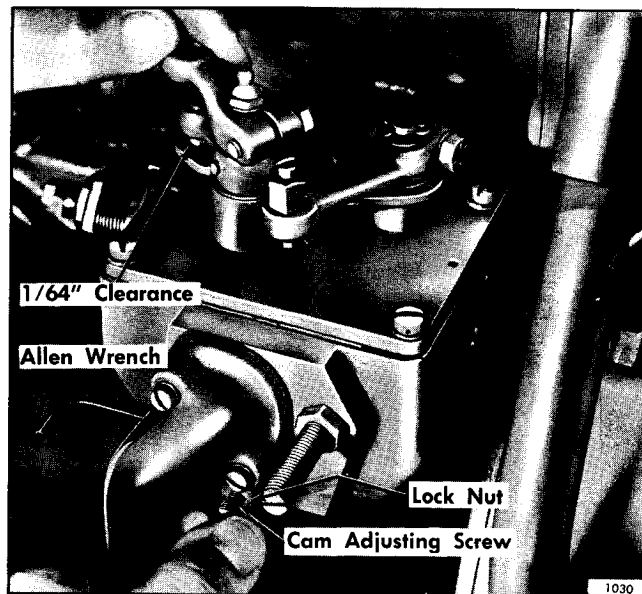

Fig. 7 - Modulating Cam Adjustment
With the control lever in the full throttle position, Fig. 7, thread the cam adjusting screw (48) outward with the finger tips until the cam (47) can be felt bottoming against roller on the bottom of the differential lever (35). Thread the cam adjusting screw outward an additional $1/8$ turn to provide positive engagement between the differential lever roller and cam. After making contact, it may be necessary to turn the screw very slightly IN or OUT to produce the final $1/64$ " clearance illustrated in Fig. 7 which is required after the Allen screw has been tightened. Tighten the lock nut (49); also install the plugging screw (51).